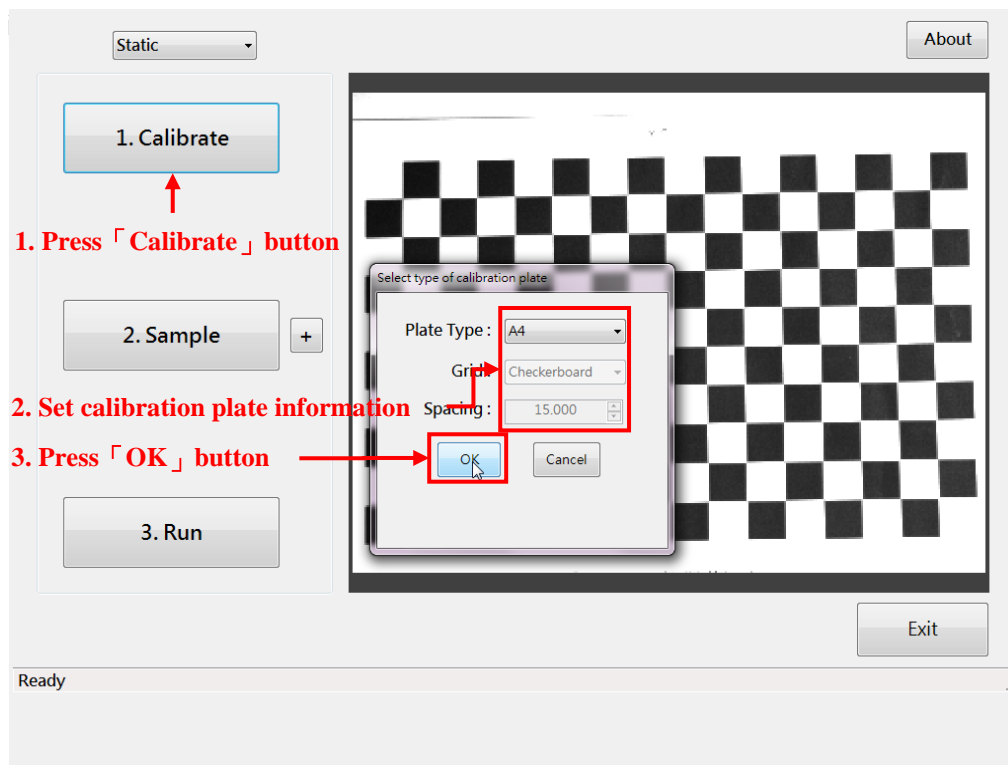

Figure 6-3 "Calibrate" button
1. Press the "Calibrate" button as shown in Figure 6-3.